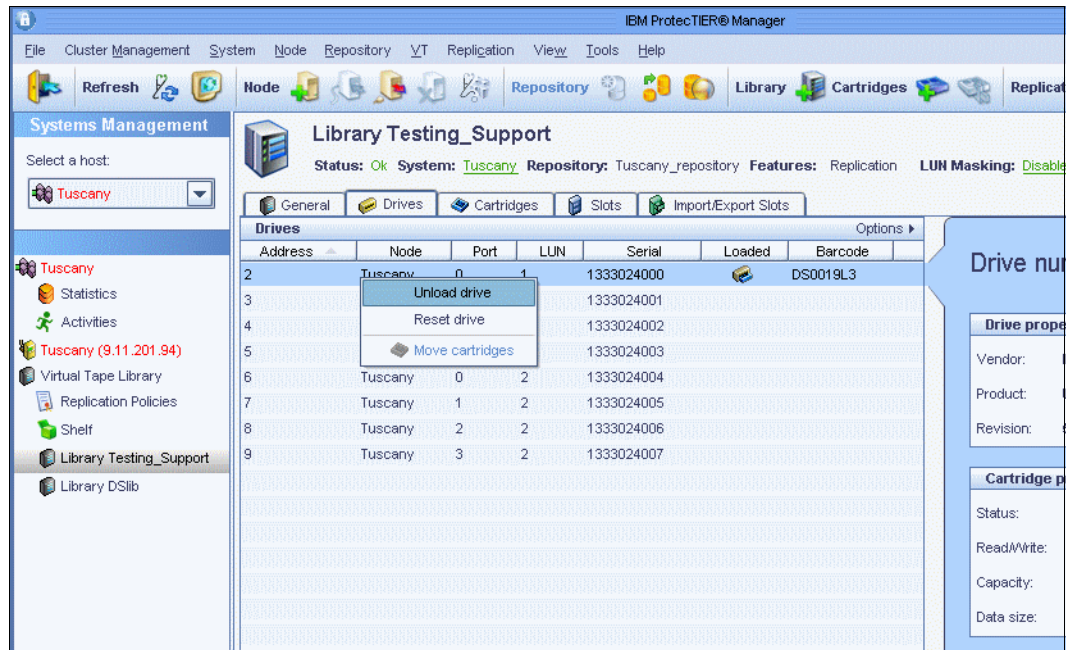

Figure 10-112 Select drive window
3. Select a drive that contains a loaded cartridge (Figure 10-112).